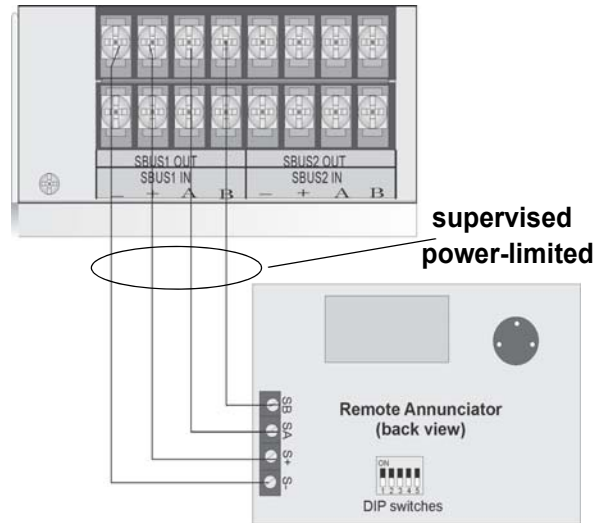

Figure 5 SBUS Connection
3. Connect the TR-RD1G/TR-RD1R to the panel. (See Figure 5).
Wire the TR-RD1G/TR-RD1R to the FACP as shown in Figure 5.